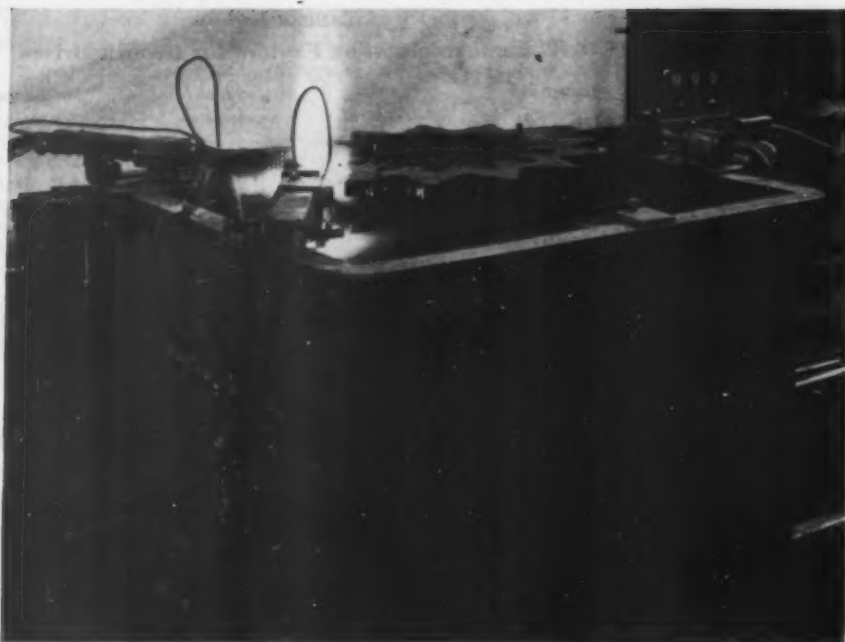

Fig. 1—Sprocket-wheel teeth are flame hardened semiautomatically in this machine which cost less than 500 dollars
ONE of the most commonly used indexing mechanisms in automatic machinery is the geneva drive, Fig. 1. A method is presented here that makes it possible to calculate accurately the dimensions of all stressed members of this drive by establishing the maximum angular acceleration of the indexed member; if the moments of inertia of the rotating parts are known the maximum torque can be established since torque = angular acceleration  $\times$  moment of inertia.
**EXAMPLE:** Find the diameter of the index table shaft and the driving pin for a six-station geneva drive, Fig. 1, the index table to be 15 in. diameter, 1 1/2 in. thick and to index 40 times a minute.
Our first venture into flame hardening at Baldwin was in connection with sprocket wheels for medium tanks. These wheels, a familiar sight in all tank arsenals during the war, were flame cut from SAE 4140 steel, and flame hardened to resist wear by the tank tracks. The machine devised for this purpose, illustrated in *Fig. 1*, was similar in principle to many used for this job, but was much simpler in construction than most. Each sprocket tooth was heated by being held stationary between two flame heads for a predetermined interval, after which the sprocket tilted automatically into the water bath over which the apparatus was supported, thus completing the quenching cycle. Pushing down a lever